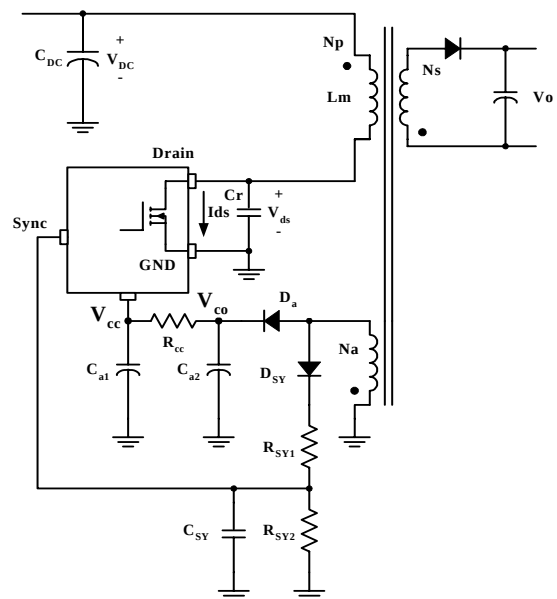
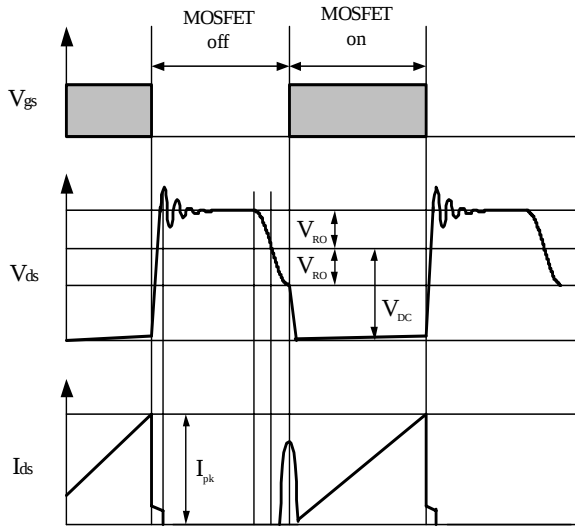
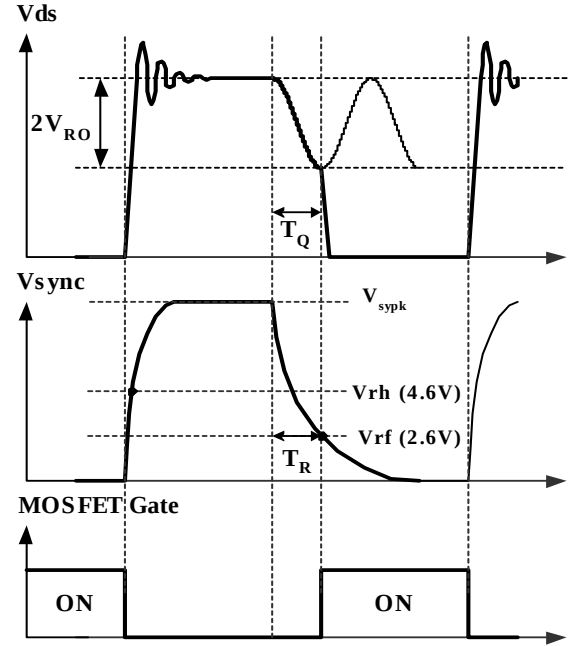

Figure 6. Synchronization circuit
Figure 7. Quasi-resonant operation waveforms
Figure 8. Normal quasi-resonant operation waveforms
2. Synchronization : FSCQ1265RT employs quasi-resonant switching technique to minimize the switching noise and loss. In this technique, a capacitor (Cr) is added between the MOSFET drain and source as shown in Figure 6. The basic waveforms of quasi-resonant converter are shown in Figure 7. The external capacitor lowers the rising slope of drain voltage to reduce the EMI caused when the MOSFET turns off. In order to minimize the MOSFET switching loss, the MOSFET should be turned on when the drain voltage reaches its minimum value as shown in Figure 7.
The minimum drain voltage is indirectly detected by monitoring the Vcc winding voltage as shown in Figure 6 and 8. The voltage divider R_{SY1} and R_{SY2} should be chosen so that the peak voltage of sync signal (V_{sypk}) is lower than the OVP voltage (12V) in order to avoid triggering OVP in normal operation. It is typical to set V_{sypk} to be lower than OVP voltage by 3-4 V. In order to detect the optimum time to turn on MOSFET, the sync capacitor (C_{SY}) should be determined so that T_R is the same with T_Q as shown in Figure 8. The T_R and T_Q are given as, respectively